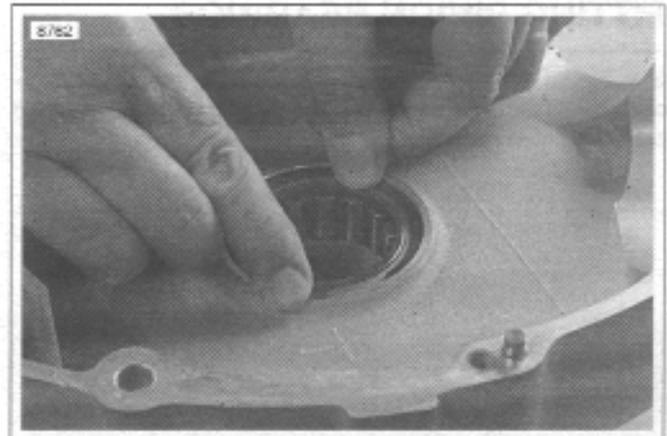

Figure 3-139. Removing Left Main Bearing Retaining Ring
9. See Figure 3-139. Remove left main bearing retaining ring from the inside of the left crankcase half.